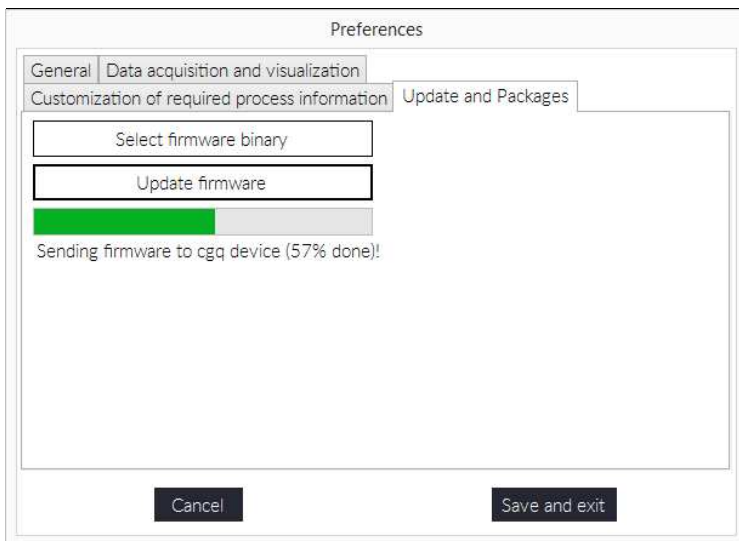
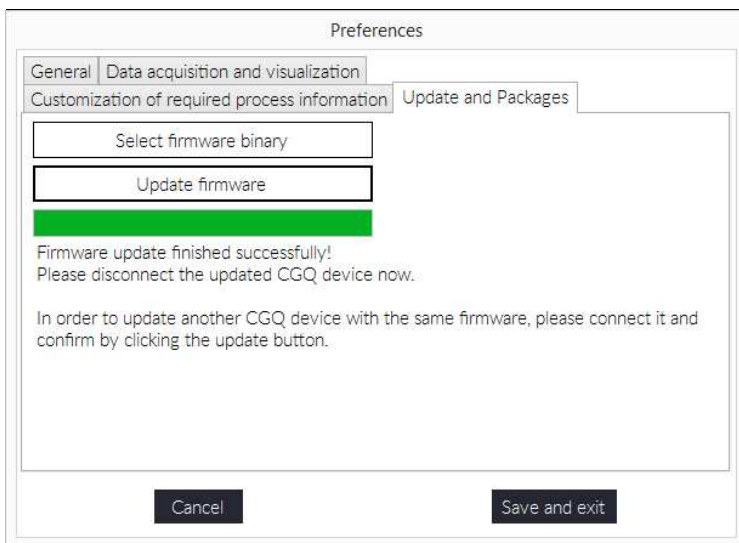

Figure 57: CGQuant "Preferences" window during firmware update.
Figure 58: CGQuant "Preferences" window after successful firmware update.
10. Start the firmware update procedure and wait for it to be finished. The firmware update process is a series of different steps, which are reported in the "Preferences" window, as exemplarily shown in Figure 57 and Figure 58. If the update process fails or stalls, please disconnect the base station power supply, reconnect it and try to upload the firmware again.